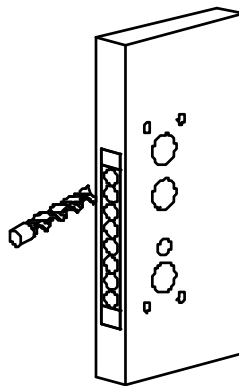

Figure 4
4) We suggest you can use 20mm drill, drill 93~95mm's hole when you drill lock body's insert port(makes next step easier).Warning: don't break the lock body's screw position. Show as Figure 4.